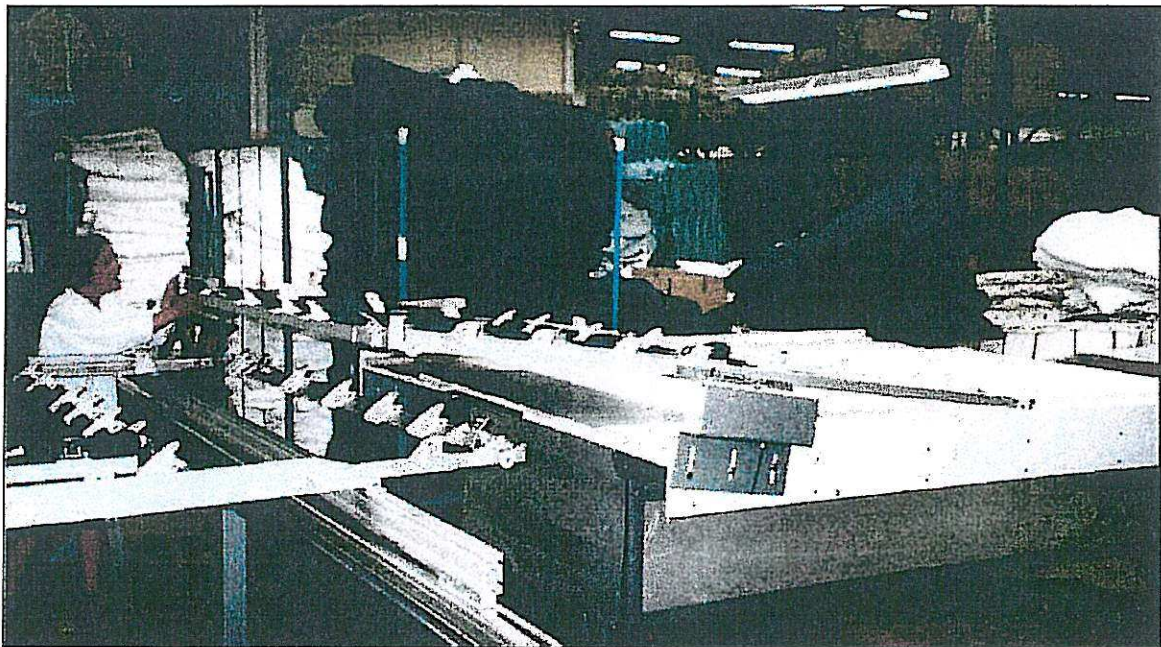

Figure 4.13
- E. Pull the frame with the quilted comforter from the machine onto the flaps of the table and pull the second frame from the table onto the Y-rails as described in the Preliminary Set-up. See *Figure 4.13*.